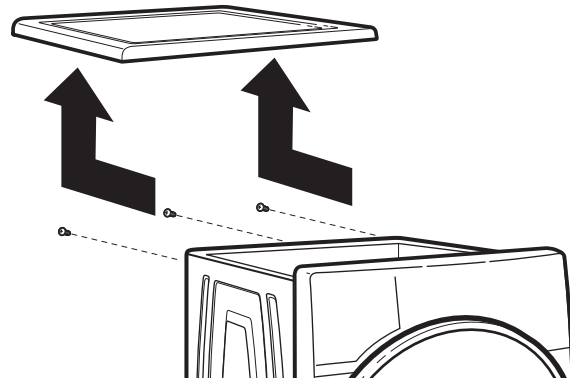

Figure 1
1. Remove the top of the washer by removing the three 1/4” hex-head screws in the back. Slide top back and up (see Figure 1).